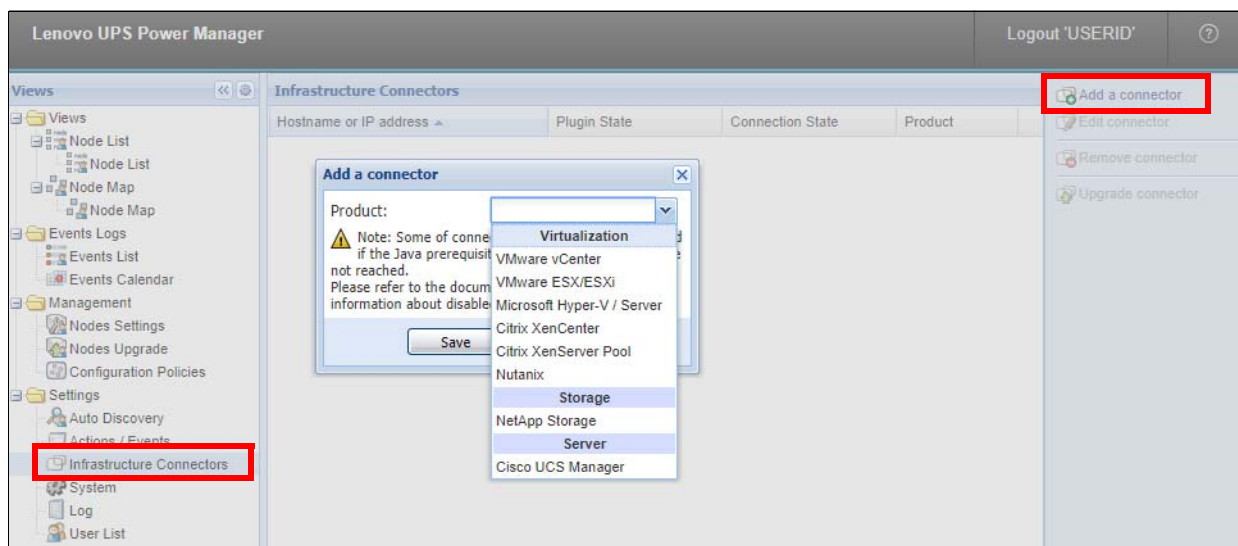

Figure 54 Connect a infrastructure connector
2. Click the **Infrastructure Connectors** option from the left hand menu, and click the **Add a connector** option from the right hand menu, as shown in Figure 54. Select the appropriate infrastructure connector based on the OS to be managed and click **Save**.
3. The Add a connector dialog box appears, Figure 54.